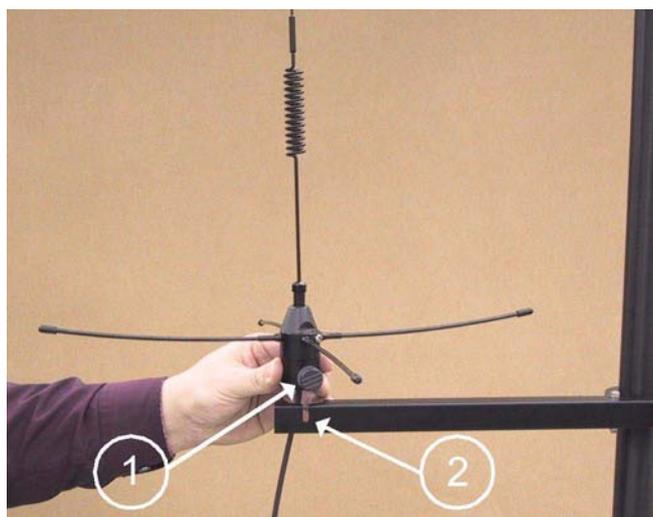

Figure 41 Installing UHF Antenna to Arm
- c. Install the antenna so that the hand screw (number 1 in Figure 41 on page 51) faces the notch (2) and tighten the hand screw. Secure the cable to the mast with the Velcro belts.